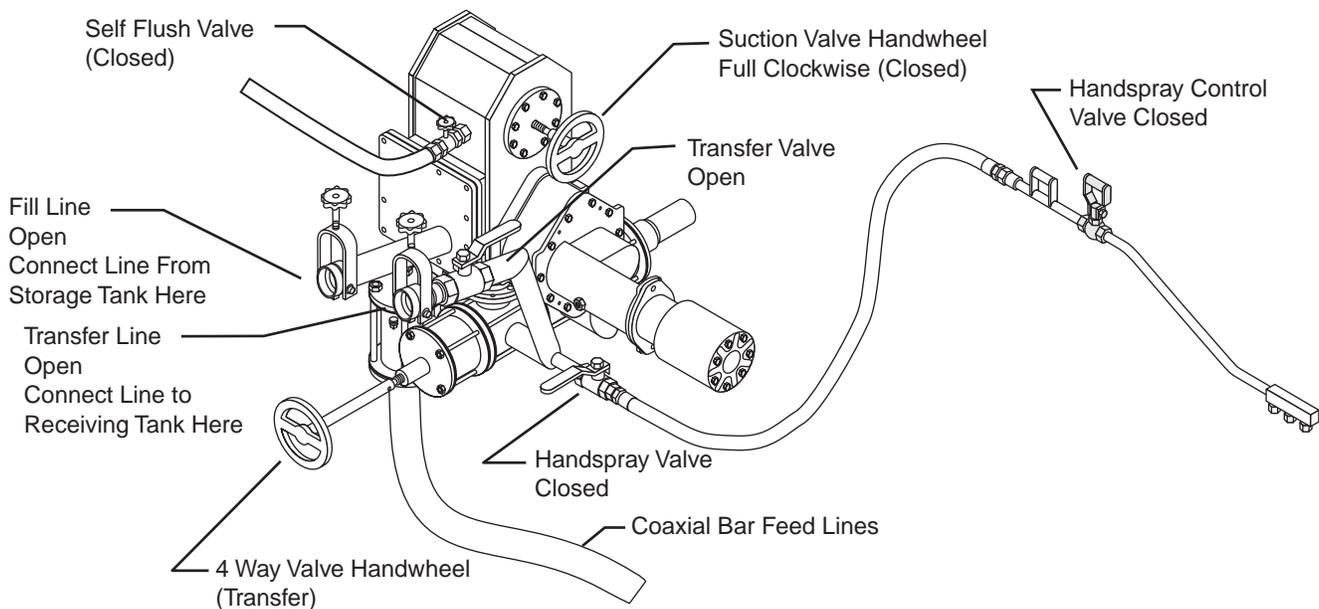

Figure 11 Valve Positions for Transfer Operation
7. Set all of the valve positions (see Figure 11).